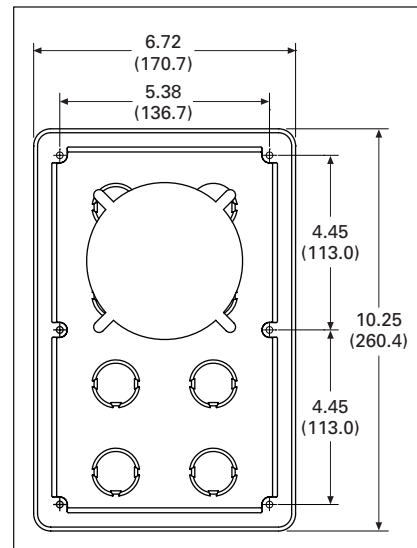

Figure 3.4-2. Flange Adapter Plate Screw Hole Pattern
1. Remove the old meter from the panel or door. Many IQ metering products use the typical IQ drilling pattern shown in **Figure 3.4-2** for mounting
2. Install the flange adapter plate. Mount it from the rear using the six screws provided in the kit. The flange adapter plate screw hole pattern shown in **Figure 3.4-2** should match the typical IQ drilling pattern. If not, perform the next step